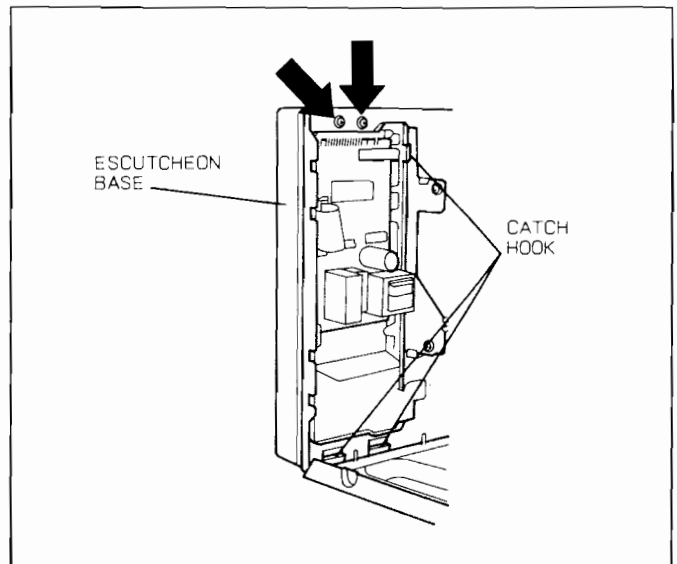

Fig. 18
- (A) Disconnect 2 lead wires from power relay B (RY1) terminals. (Fig. 18)
- (B) Disconnect CN1 and CN3 connectors from DPC. (Fig. 18)
- (C) Remove 2 screws holding escutcheon base and slide the escutcheon base upward slightly. (Fig. 18)